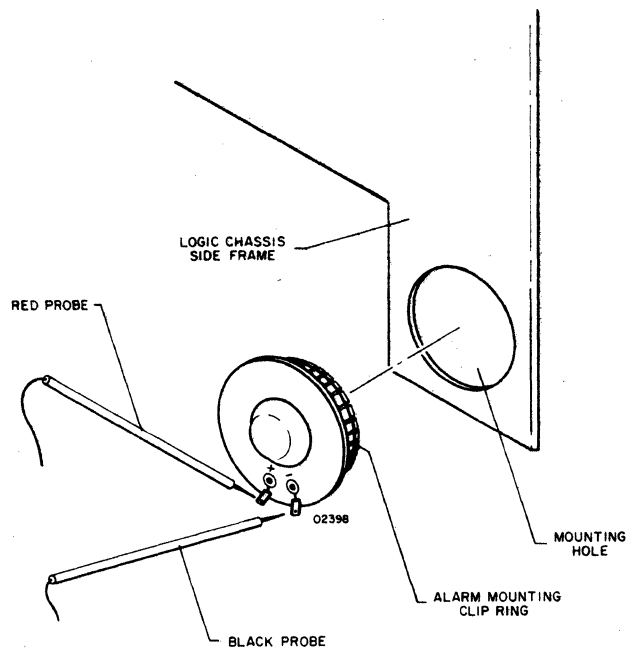

Figure CRT54. Checking Sonaalert Alarm
- 5) Attach red (+) probe to Sonalert alarm (pin marked "+"). See figure CRT54.